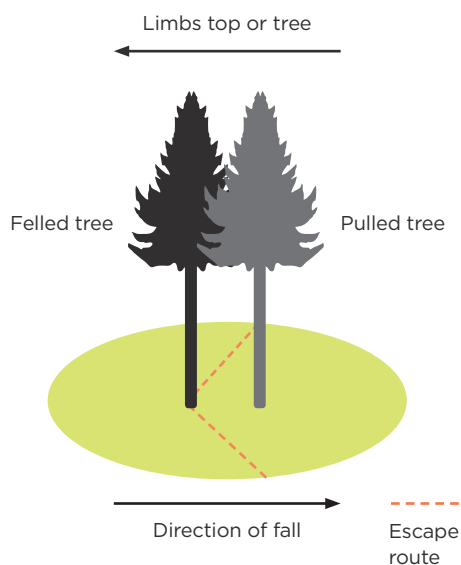

FIGURE 26:
- 21.15.4 The danger zone in this hazard extends from the felled tree to the tree behind with a width equal to the width of the tree behind (Figure 26). This hazard is relative to the direction of fall. This emphasises the importance of directional felling techniques and proper use of scarf and back cuts.